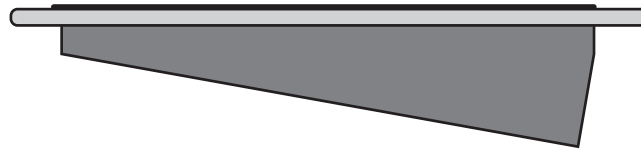

Figure 3.9 Profile of Control Panel Sitting Flush in the Desk
2. Gently slide the control panel into the cutout in the desk. The control panel will drop into the cutout from above and rest on the edge supports (**Figure 3.9**).